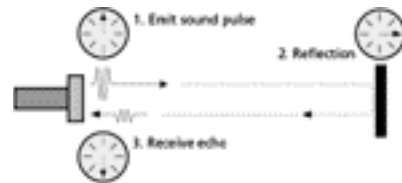

Fig. 3: Ultrasonic measurement
- The analogue signals are determined by ultrasonic measurement in the controller. The sensor emits a brief sound pulse (see Fig. 3). This pulse propagates in the air and is reflected back from an object as an echo. The wms-4/4i II measures the time taken between emitting the signal and receiving the echo. From this propagation time, the controller determines an analogue signal proportional to the distance (rising: 4...20 mA, or falling: 20...4 mA).